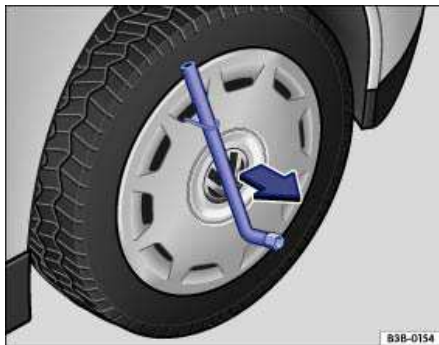

Fig. 176 Pulling the wheel cover off.
- Slide the lug wrench through the clip ⇒ fig. 176 and pull the wheel cover off in the direction of the arrow.